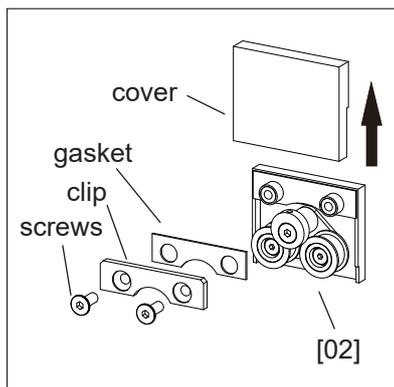

Fig 5.1
1. Remove **covers, screws, clips** and **gaskets** from the **Rollers [02]**. (Fig 5.1)